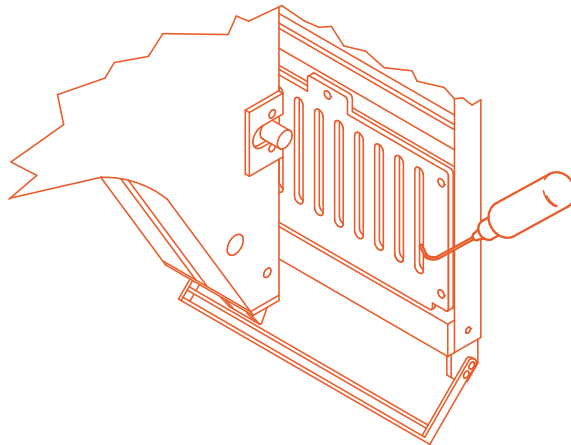

Figure 5-3
3. From behind the needle case, place one or two drops of sewing machine oil onto needle bars one through six in the location shown in Figure 5-3. Repeat for all sewing heads.